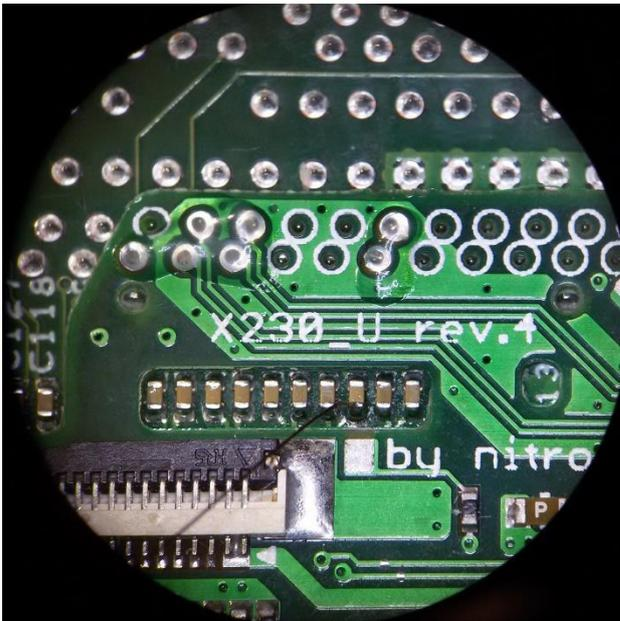

Figure 10. Putting the flux
3. Put some flux on each PTH (see figure 10);